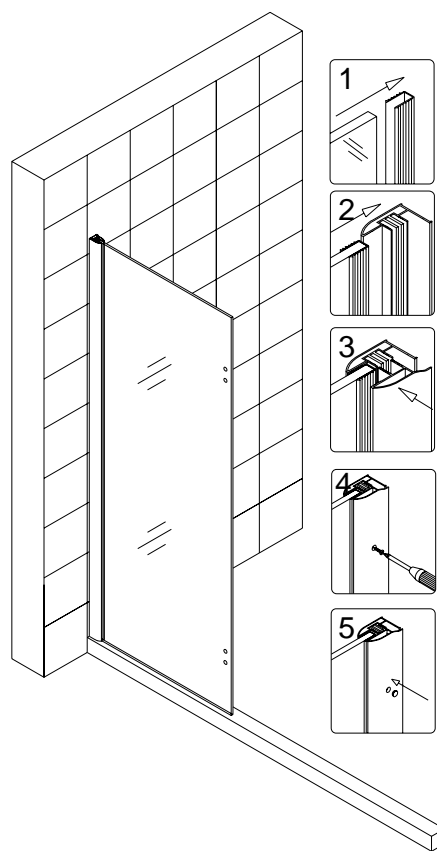

Fig 2
2. Locate the **Stationary glass panel (02)** from the package and push the **U-shape seal gasket (13)** onto the vertical edge of the stationary glass. Set the glass panel onto the threshold, tray or bathtub, push it sideways fully into the groove of the profile and then secure it with internal **Glass Profile (01)** with **Flathead screw ST4.2x15 (09)**. Cover the exposed screw heads with **Decorative Plugs (08)**. See Fig. 2 for details.